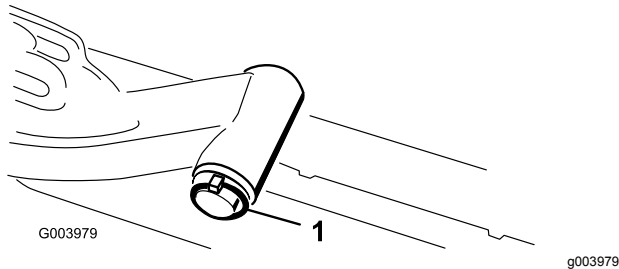

Figure 9
- A. Remove the lynch pin and washer securing the lift-arm-pivot shaft to the lift arm and slide the lift-arm-pivot shaft out of the lift arm (Figure 9).
- C. Insert the lift-arm shaft into the lift arm and secure it with the washer and lynch pin (Figure 9).